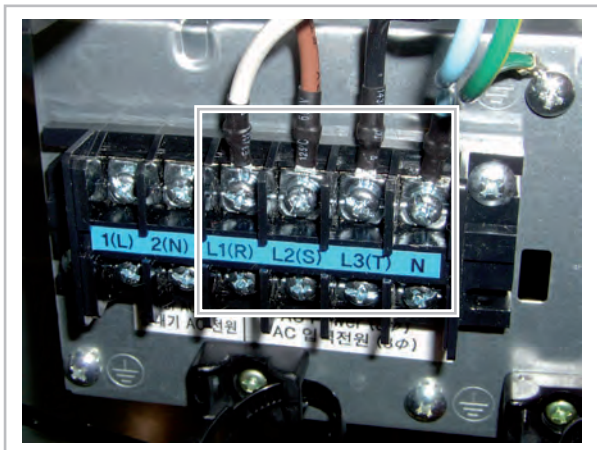

Fig. 20: Connection terminals - outdoor unit WKF 180 Duo
- With the series WKF 180 Duo, make sure that on terminals L1(R), L2(S), L3(T) and N are connected (see Fig. 20).